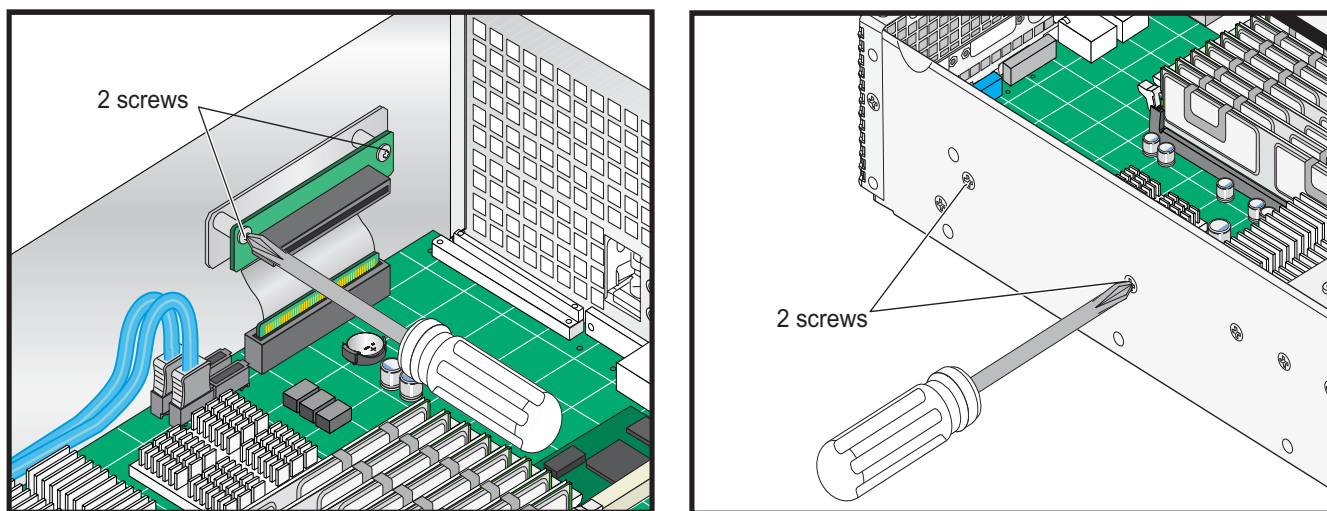

Figure 3-13 PCI Riser Board Removal
2. Remove the screws that secure the riser board to the chassis (refer to Figure 3-13).